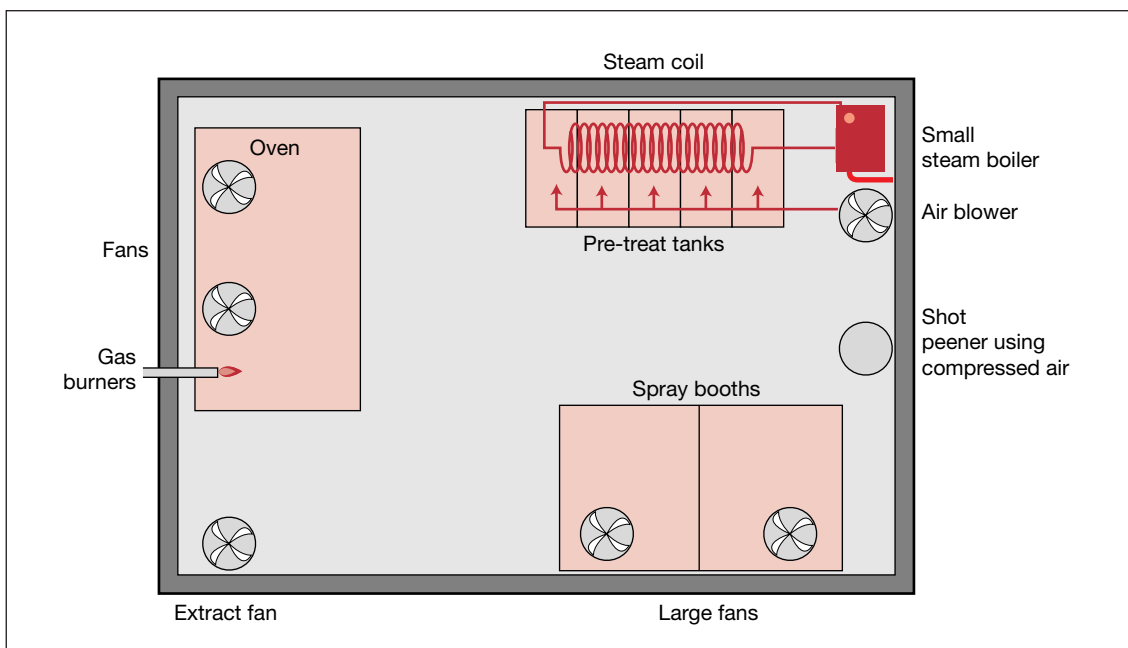

Fig 4 Example of plant layout showing main energy users
- Make a quick sketch of your plant - or find a site drawing - and identify the main items of energy-using plant. Fig 4 provides an example.